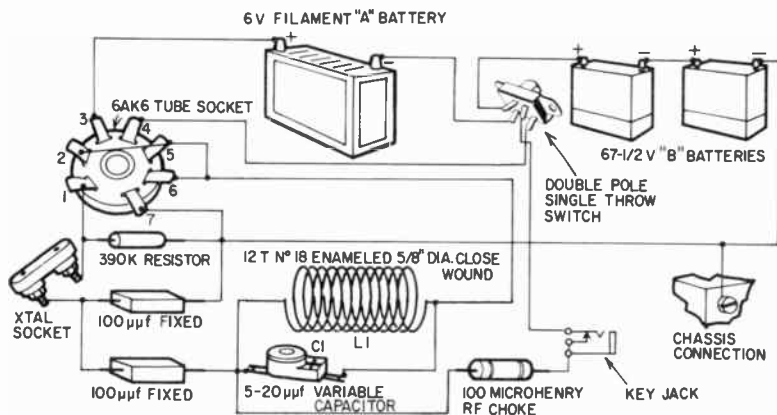

Fig. 304. Pictorial wiring diagram of the basic transmitter.
17. Recheck all connections to insure good solder joints. Fig. 304 is a pictorial of the transmitter. You can use this illustration to make sure you have all parts connected as they should be. Insert the tube and crystal and we are now ready to adjust and test our basic transmitter.
Next we turn our attention to the switch and key. Buy a double-pole single-throw toggle switch, and an earphone plug and jack. On the switch will be two lugs (as we look at it from the back) on each side. Connect a wire from the free end of the rf choke to one lug of the key jack. Connect a wire from the other jack lug to the bottom terminal of the switch (see Fig. 304) and a third lead about 6 inches long to the lug just above this. This last lead will now go to B-plus.
Our double-pole, single-throw switch is going to be used as an on-off switch for the A- and B-batteries. Fig. 304 shows how this is done. One section of the switch is inserted between the negative terminal of the A-battery and pin 4 of the tube. The other section of the switch is inserted between the plus terminal of the B-battery and the key jack.